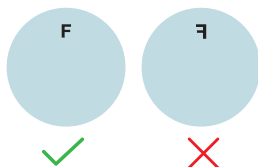

Fig 1. EndoArt® implant orientation
17. Before insertion, ensure the implant is in its right orientation: EndoArt® has a character "(F)" marked on the peripheral surface that should appear correctly (Fig. 1); otherwise, the implant should be overturned.